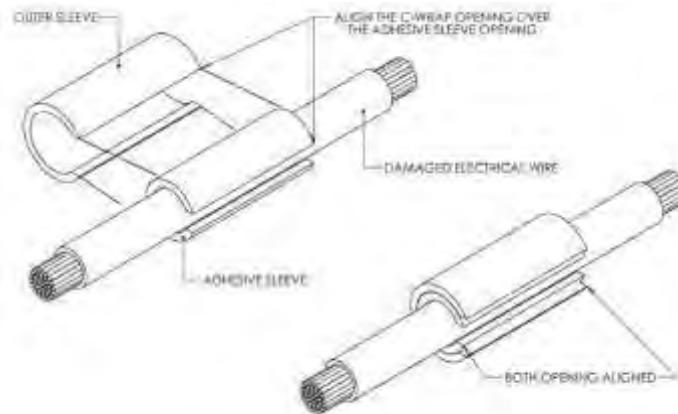

Figure 159
1. Clip the insulation over the adhesive sleeve. Center the insulation over the adhesive sleeve. Align the slit of the adhesive with the slit of the insulation as shown in Figure 159.